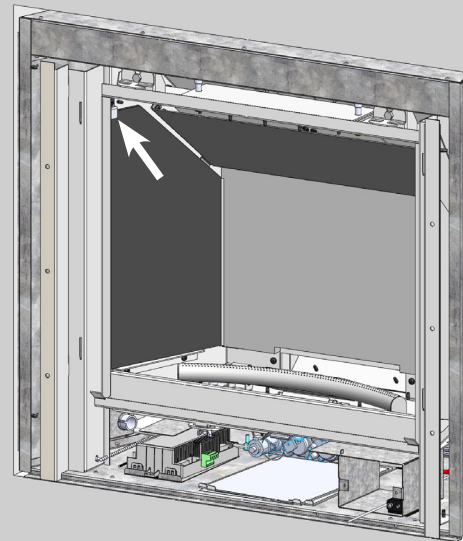

Fig.15
5. Loosen the top left tab as shown by arrow, install the left glass up under the tab and onto the support. (**Fig.15**) **NOTE: THE SIDE WITH LABEL SHOULD BE FACING THE FIREBOX, REMOVE BEFORE FIRING.** Retighten the tab. **HANDLE GLASS CAREFULLY BY THE EDGES, DO NOT LEAVE FINGERPRINTS, CLEAN IF NECESSARY.**